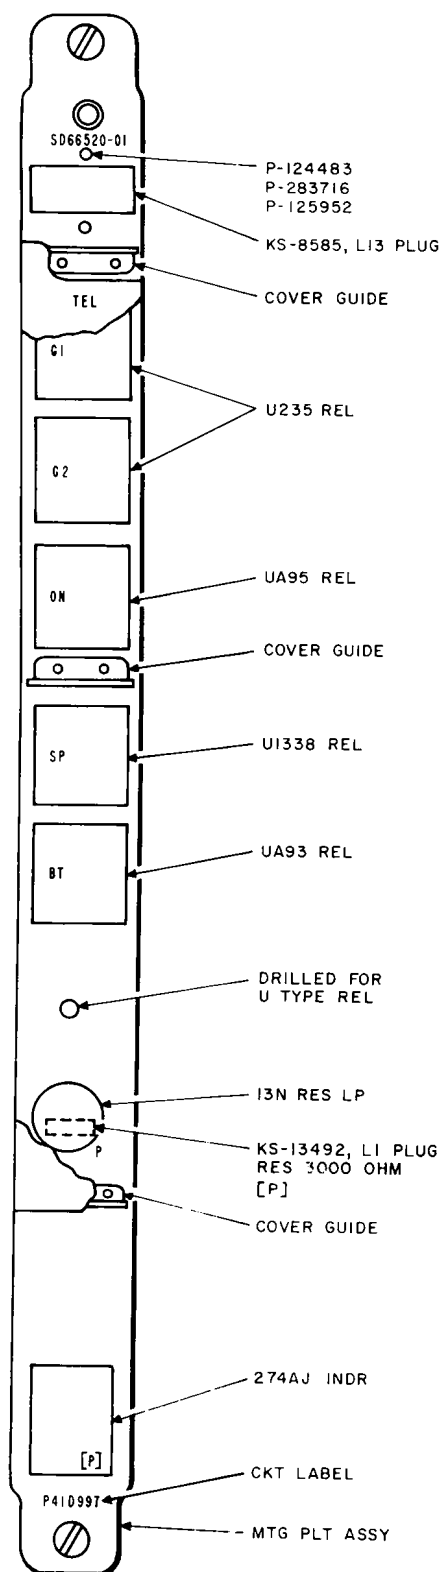

Fig. 5—Rear View-Attendant Telephone Unit
3.08 ♦ To modify position 2, J59013D-3, List 2 must be ordered. This order will supply two relays (G1 and G2) and a KS-8585, List 13 plug (Fig. 5). ♦
3.11 Mount the KS-8585, List 13 plug using the P-124483 screws, the P-283716 lockwashers, and the P-125952 nuts on the telephone unit of position 2, per Fig. 5. The U235 relays designated G1 and G2 mount immediately below the KS-8585, List 13 plug.